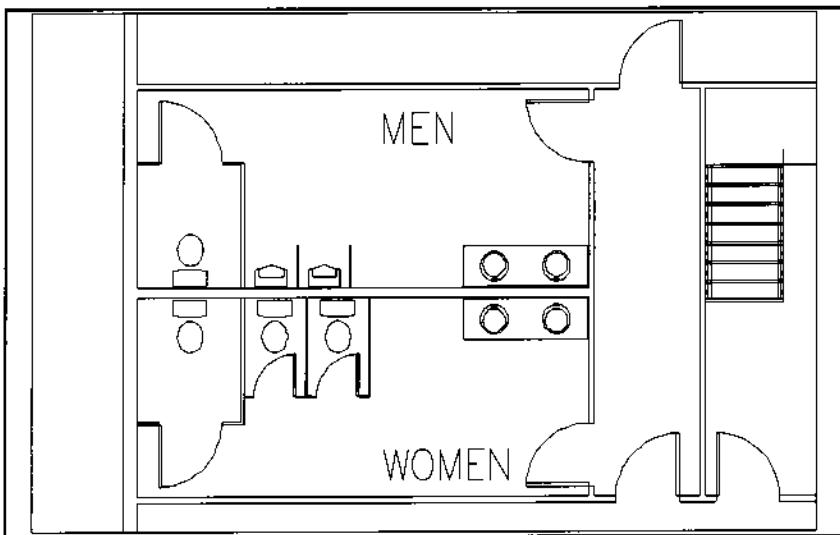

Figure 77.
1. Add 2 urinals in the Men's room, as shown in Figure 77.